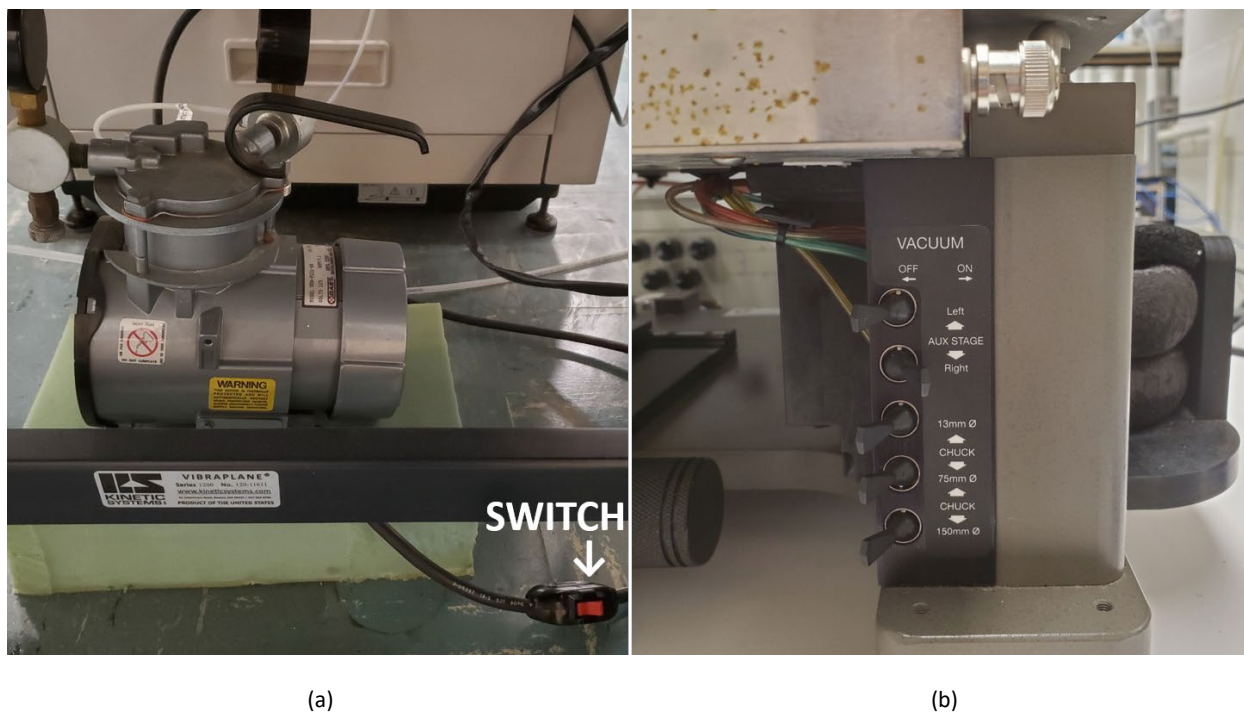

Fig. 4.2. (a) Vacuum pump and (b) switch bank.
- 4.3 Turn on the vacuum pump under the vibration-isolation table. The switch is on the power cord for the pump [Fig. 4.2(a)].
- 4.4 Turn on the vacuum to the right auxiliary chuck [Fig. 4.2(b)]. The switch is the second from the top among the bank of vacuum-control switches on the right of the probe station. Do not confuse the vacuum pump switch with the vacuum control switches.